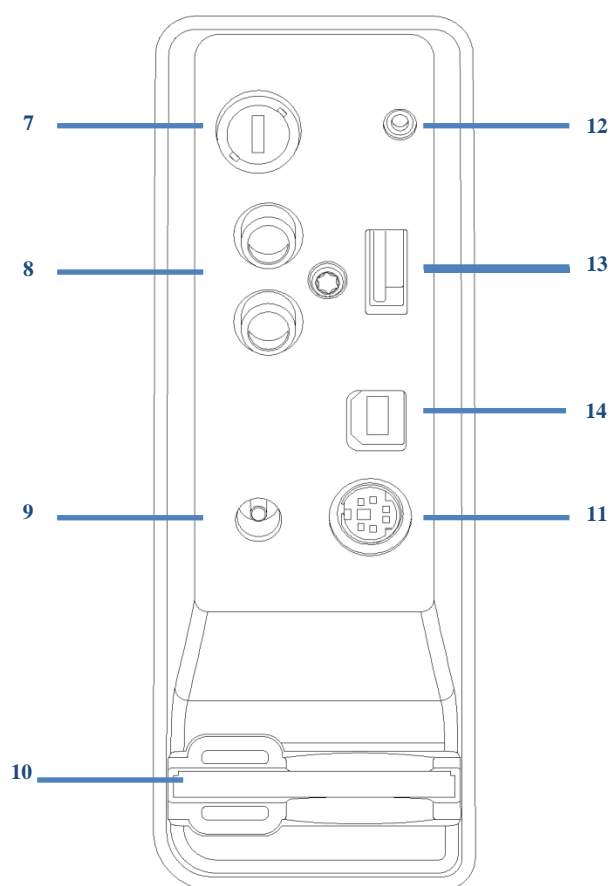

Figure 2.3 Controller I/O Panel
- Connect the power supply (12 to 24V DC vehicle supply, mains adaptor or optional battery pack) to the power socket. (Item 9 in Figure 2.3).
Insert a Radiodetection approved high speed Compact Flash card into the card slot, which is located inside the I/O panel (Item 10 in Figure 2.3).
Insert a high speed Radiodetection approved USB flash drive, (commonly known as a memory stick or thumb drive) into the USB socket, which is located inside the I/O panel (Item 13 in Figure 2.3).
Connect the supplied keyboard via the PS/2 connector in the I/O panel (Item 11 in Figure 2.3).